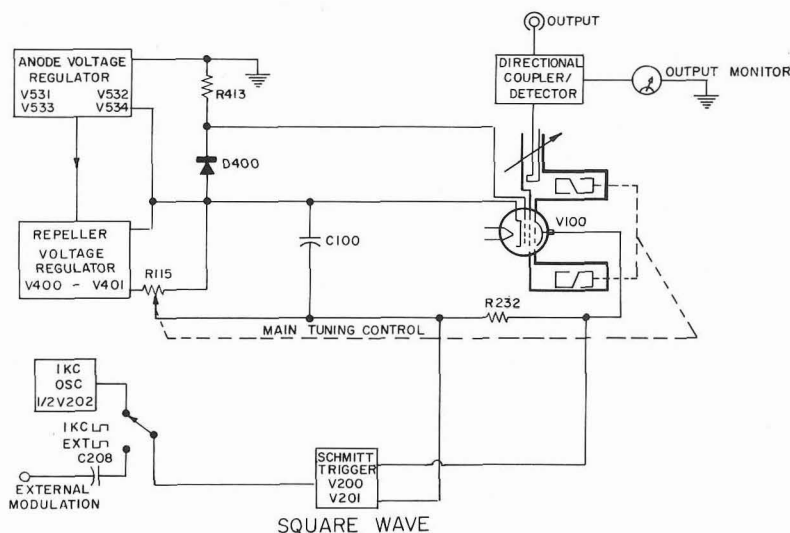
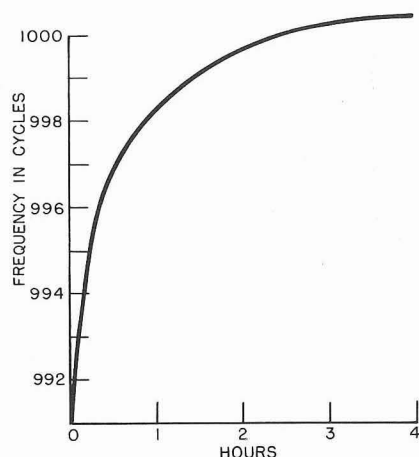

Figure 6. Block diagram for operation of the Microwave Oscillator with internal 1-kc square-wave modulation or external square-wave modulation.
Figure 7. Typical warm-up drift for the 1-kc oscillator.
3.2.7 1-KC SQUARE-WAVE MODULATION. In many types of klystrons, including the Type 5836, an appreciable amount of fm occurs across long pulses when the tube is grid-modulated. Therefore, in the Type 1360-A Microwave Oscillator, the repeller is used for square-wave modulation. By modulating in and out of a repeller mode, fm will naturally occur on the leading and trailing edges of the pulse, but its duration is now a function of the switching speed. The 1-kc output from the RC oscillator is fed into the Schmitt trigger circuit where square-wave output is applied across R232 in series with the repeller lead (see Figure 6). The frequency of the 1-kc square wave can be changed with the 1 KC ADJUST screw-driver control to match the frequency of the detector. Figure 7 shows the typical warm-up drift for the 1-kc oscillator. The frequency change with power-line voltage fluctuations is approximately 0.06% per volt at 115 volts.
3.2.8 EXTERNAL SQUARE-WAVE MODULATION. For external square-wave modulation, operation is similar to 1-kc square-wave modulation (see Figure 6) except that the modulating voltage is fed from an external source through the EXTERNAL MODULA-